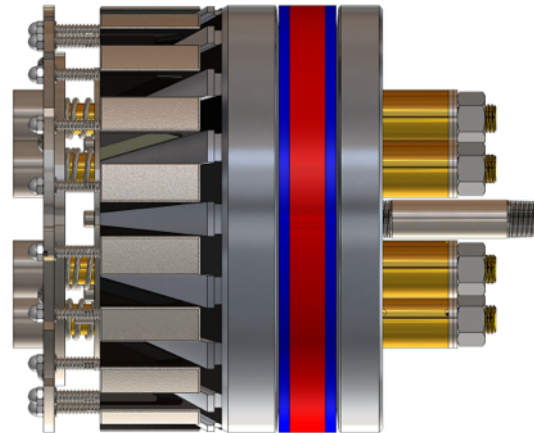

Figure 4: Ready to Install
- Ensure the **Compression Hex Nuts(9)**, are not tightened and the **Spring Plate Hub(21)**, is in the Retracted state as seen in *Figure 4*.
- In the Retracted state, shown in *Figure 4*, the GripSafe ST Plug will not immediately grip the pipe upon insertion.